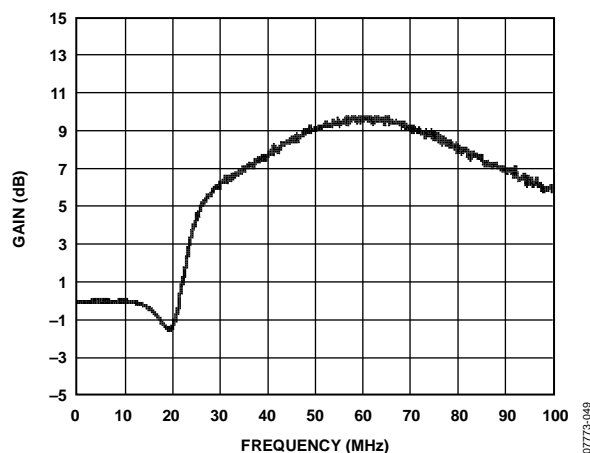
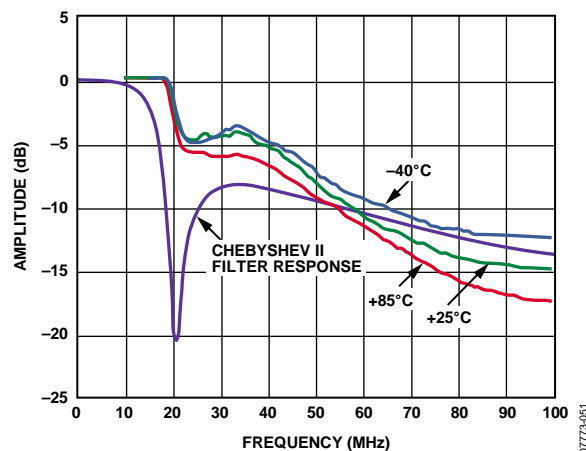
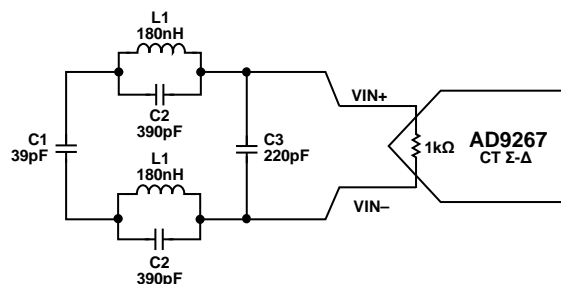

Figure 43. STF
Figure 44. Maximum Input Level for 3 dB Noise Degradation
Figure 45. Third-Order Low-Pass Chebyshev II Filter
An overrange condition can be triggered by large in-band signals that exceed the full-scale range of the Σ - Δ modulator, or it can be triggered by out-of-band signals gained by the transfer characteristics of the modulator. Figure 43 shows the signal transfer function of the Σ - Δ modulator. The modulator output possesses out-of-band gain above 10 MHz. As a result, the input signal may exceed full scale for input frequencies beyond 10 MHz and the ADC may be in an overrange state. The OR \pm x pins serve as indicators for the overrange condition.
Figure 43 shows the normalized STF of the AD9267 CT Σ - Δ converter. The figure shows out-of-band peaking beyond the band edge of the ADC. Within the 10 MHz band of interest, the STF is maximally flat with less than 0.1 dB of gain. Maximum peaking occurs at 60 MHz with 10 dB of gain. To put this into perspective, for a fixed input power, a 5 MHz in-band-signal appears at -5 dBFS, a 25 MHz tone appears at -2 dBFS and 60 MHz tone at +5 dBFS. Because the maximum input to the ADC is -2 dBFS, large out-of-band signals can quickly saturate the system. This implies that under these conditions, the digital outputs of the ADC no longer accurately represents the input. Refer to the Overrange (OR) Condition section for details on overrange detection and recovery.
Figure 43 shows the gain profile of the AD9267 and this can be interpreted as the level in which the signal power should be scaled back to prevent an overload condition. This is the ultimate trip point and before this point is reached, the in-band noise (IBN) slowly degrades. As a result, it is recommended that the low-pass filter be designed to match the profile of Figure 44, which shows the maximum input signal for a 3 dB degradation of in-band noise. The input signal is attenuated to allow only 3 dB of noise degradation over frequency.
The noise performance is normalized to a -2 dBFS in-band signal. The AD9267 STF and NTF are flat within the band of interest and should result in almost no change in input level and IBN. Beyond the bandwidth of the AD9267, out-of-band peaking adds gain to the system, therefore requiring the input power to be scaled back to prevent in-band noise degradation. The input power is scaled back to a point where only 3 dB of noise degradation is allowed, therefore resulting in Figure 44.
An example third-order low-pass Chebyshev II type filter is shown in Figure 45 and the corresponding magnitude vs. frequency response of the filter is shown in Figure 44.
In addition to matching the profile of Figure 44, group delay and channel matching are important filter design criteria. Low tolerance components are highly recommended for improved channel matching, which translates to minimal degradation in image rejection for quadrature systems.